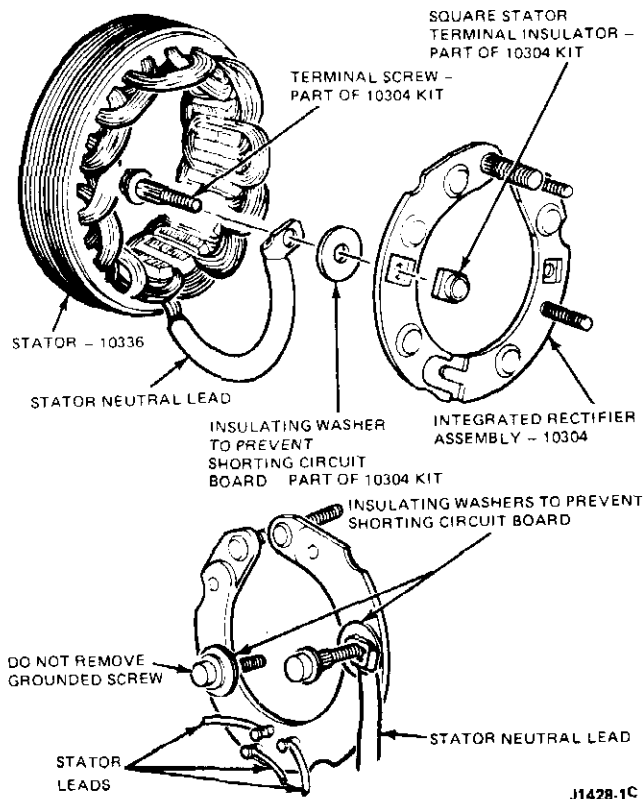

FIG. 6 Stator Terminal Installation—Rectifier With Built-in Diodes
If the alternator rectifier has an exposed diode circuit board, remove the screws from the rectifier by rotating the bolt heads $1/4$ turn clockwise to unlock them and then remove the screws. Push the stator terminal screw straight out on a rectifier with the diodes built into the circuit board. Avoid turning the screw while removing to make certain that the straight knurl will engage the insulators when installing. Do not remove the grounded screw (Fig. 6).
9. Wrap the three stator winding leads around the circuit board terminals and solder them. On 65-amp alternator, push the terminals of the stator wires onto the circuit board terminals and solder them. Work quickly to prevent overheating the rectifier. Position the stator neutral lead eyelet on the stator terminal screw and install the screw in the rectifier assembly (Fig. 6).